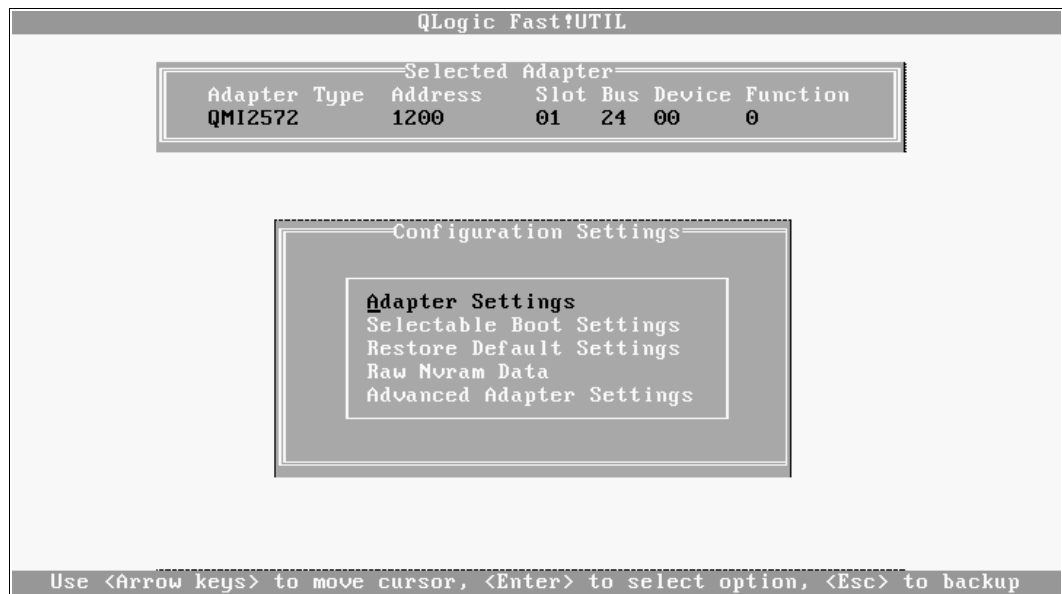

Figure 22-8 HBA Adapter settings
4. Select **Adapter Settings** and press Enter as shown in Figure 22-8.